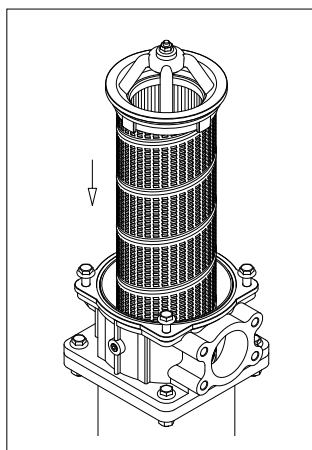

fig. 30
- (Fig. 30) Insert the internal filter until the O-Ring is seated in the conical seat of the head